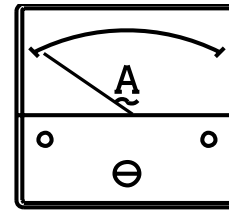

Figure 34. Ammeter (No Load)
11. The ammeter (Figure 34) will indicate **zero amps** with no load applied. When a load is applied, the ammeter will indicate the amount of current that the load is drawing from the generator.